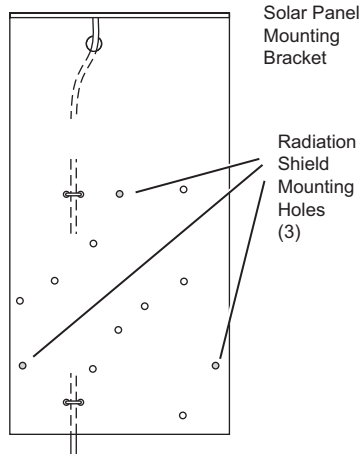

Figure 16. Radiation Shield Mounting Holes in Solar Panel Bracket
2. Place the solar panel bracket on top of the stack with the panel located near the hinge side of the SIM housing. Line up the screw bosses in the radiation shield stack with the solar panel mounting bracket holes. See Figure 16.